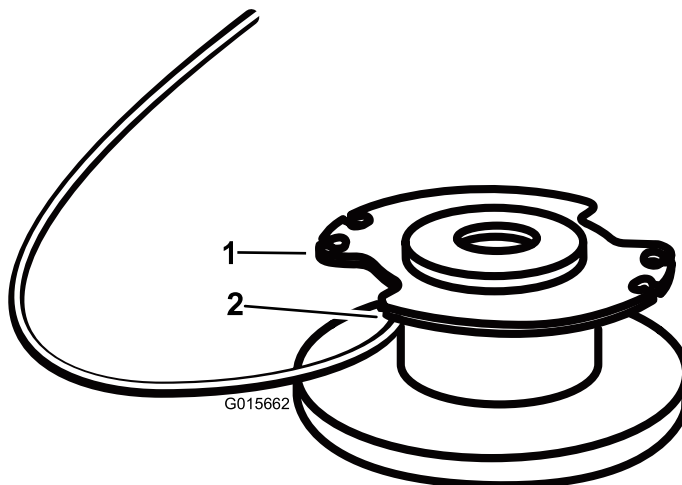

Figure 20
4. Insert the string into the anchor hole in the upper part of the spool (Figure 20). Wind the string onto the spool in the direction shown by the arrows on the spool.